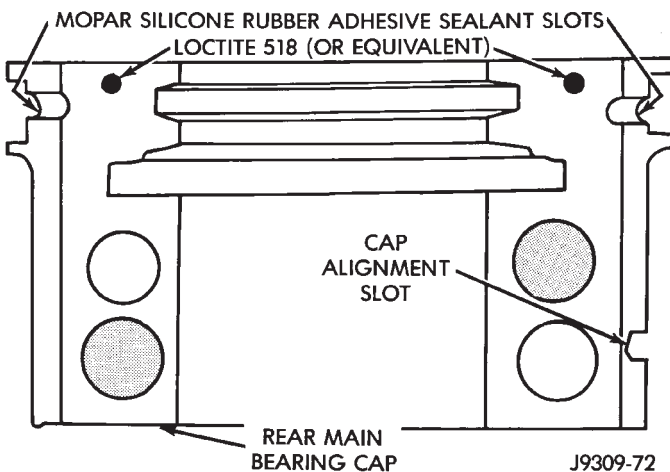
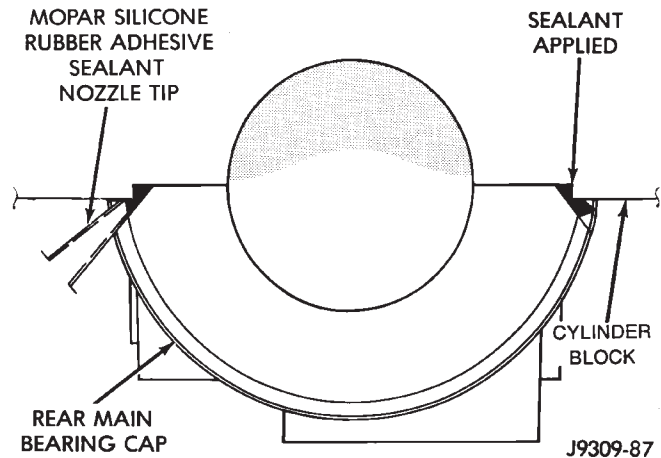

Fig. 45 Sealant Application to Bearing Cap
Fig. 46 Apply Sealant to Bearing Cap to Block Joint
- (1) Clean the cylinder block rear cap mating surface. Make sure the seal groove is free of debris.
- (2) Lightly oil the new upper seal lips with engine oil.
- (3) Install the new upper rear bearing oil seal with the white paint facing towards the rear of the engine.
- (4) Position the crankshaft into the cylinder block.
- (5) Lightly oil the new lower seal lips with engine oil.
- (6) Install the new lower rear bearing oil seal into the bearing cap with the white paint facing towards the rear of the engine.
- (7) Apply 5 mm (0.20 in) drop of Loctite 518, or equivalent, on each side of the rear main bearing cap (Fig. 45). DO NOT over apply sealant or allow the sealant to contact the rubber seal. Assemble bearing cap to cylinder block immediately after sealant application.
- (9) Clean and oil all cap bolts. Install all main bearing caps. Install all cap bolts and alternately tighten to 115 N·m (85 ft. lbs.) torque.
- (10) Install oil pump.
- (11) Apply Mopar Silicone Rubber Adhesive Sealant, or equivalent, at bearing cap to block joint to provide cap to block and oil pan sealing (Fig. 46). Apply enough sealant until a small amount is squeezed out. Withdraw nozzle and wipe excess sealant off the oil pan seal groove.
- (12) Install new front crankshaft oil seal.
- (13) Immediately install the oil pan.
(4) Install the new lower rear bearing oil seal into the bearing cap with the white paint facing towards the rear of the engine.
(5) Apply 5 mm (0.20 in) drop of Loctite 518, or equivalent, on each side of the rear main bearing cap (Fig. 45). DO NOT over apply sealant or allow the sealant to contact the rubber seal. Assemble bearing cap to cylinder block immediately after sealant application. Be sure the white paint faces toward the rear of the engine.
(6) To align the bearing cap, use cap slot, alignment dowel and cap bolts. DO NOT remove excess material after assembly. DO NOT strike rear cap more than 2 times for proper engagement.
(7) Install the rear main bearing cap with cleaned and oiled cap bolts. Alternately tighten ALL cap bolts to 115 N·m (85 ft. lbs.) torque.
(8) Install oil pump.
(9) Apply Mopar Silicone Rubber Adhesive Sealant, or equivalent, at bearing cap to block joint to provide cap to block and oil pan sealing (Fig. 46). Apply enough sealant until a small amount is squeezed out. Withdraw nozzle and wipe excess sealant off the oil pan seal groove.
(10) Immediately install the oil pan.
(1) Clean the rear main cap mating surfaces including the oil pan gasket groove.
(2) Carefully install a new upper seal (refer to Upper Seal Replacement - Crankshaft Installed procedure above).
(3) Lightly oil the new lower seal lips with engine oil.
(4) Install a new lower seal in bearing cap with the white paint facing the rear of engine.
(5) Apply 5 mm (0.20 in) drop of Loctite 518, or equivalent, on each side of the rear main bearing cap (Fig. 45). DO NOT over apply sealant or allow the sealant to contact the rubber seal. Assemble bearing cap to cylinder block immediately after sealant application.
(7) Install the rear main bearing cap with cleaned and oiled cap bolts. Alternately tighten the cap bolts to 115 N·m (85 ft. lbs.) torque.